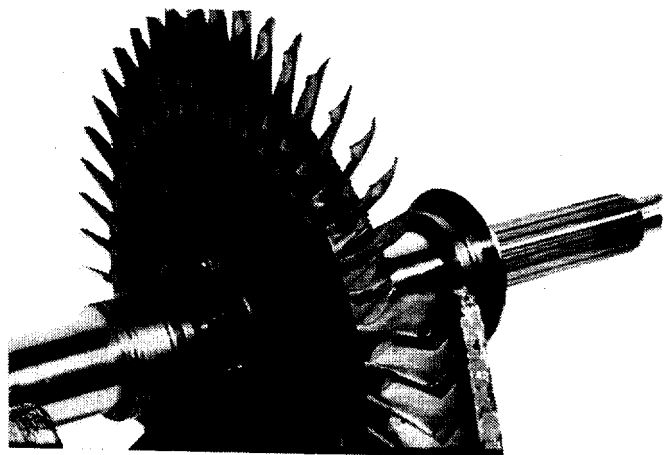

Fig.8-Stretched Blades That Have Rubbed the Shroud
1. Turbine blades that are stretched and have rubbed the shroud; some of the blades may have pulled apart. Often the turbocharger is frozen and the impeller cannot be rotated, therefore, only a limited view of the blades is available, Fig. 8.